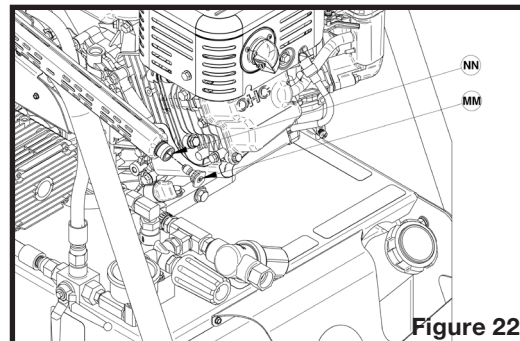

Figure 22
2. If the machine has been used for soap injecting, install a high pressure yellow, green or white nozzle (MM on figure 22) at wand outlet (NN on figure 22).